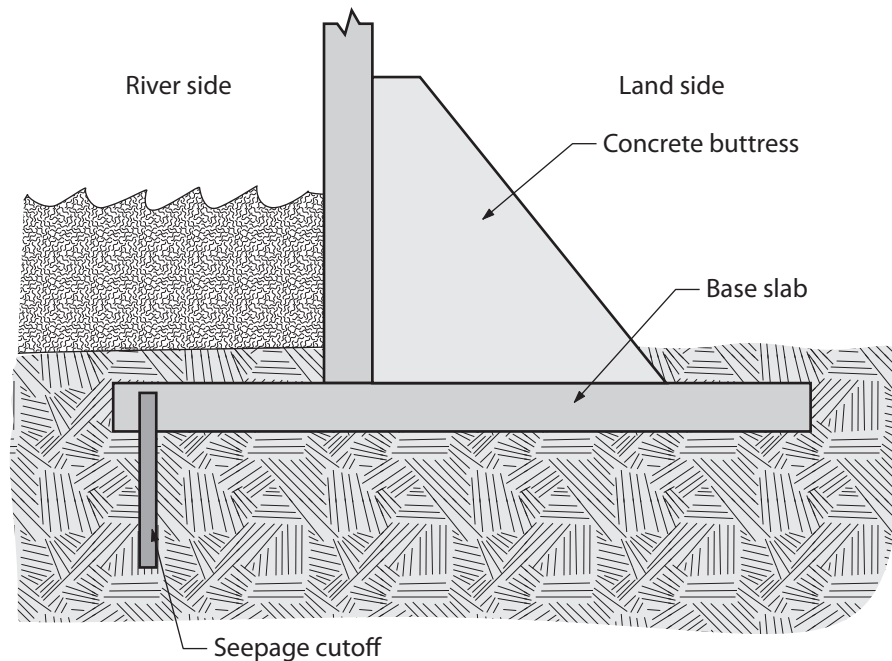

Figure 2 – Buttress wall
- Buttress walls are short walls built at right angles to the main wall. Usually longer at the bottom than at the top, they add extra support and stiffening to the wall (Figure 2).